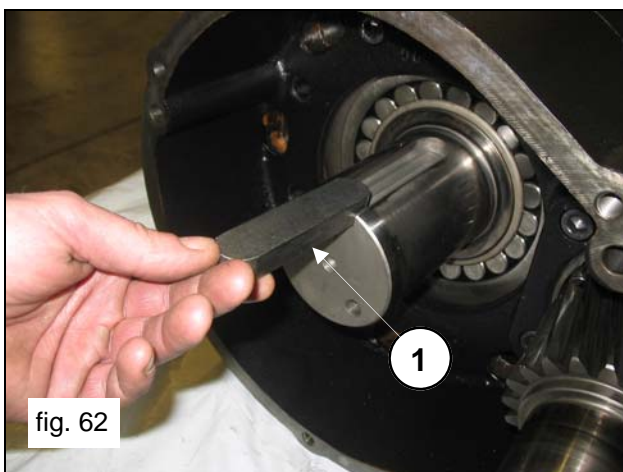

fig. 62
Apply the 22x14x100 key in the seat on the shaft (pos. ①, fig.62) and insert the ring gear on the shaft. Fasten the ring gear stopper (pos. ①, fig.63) using the two 2 M10x25 screws (pos. ②, fig.63). Calibrate the screws with the torque wrench as indicated in paragraph 3."SCREW CALIBRATION"